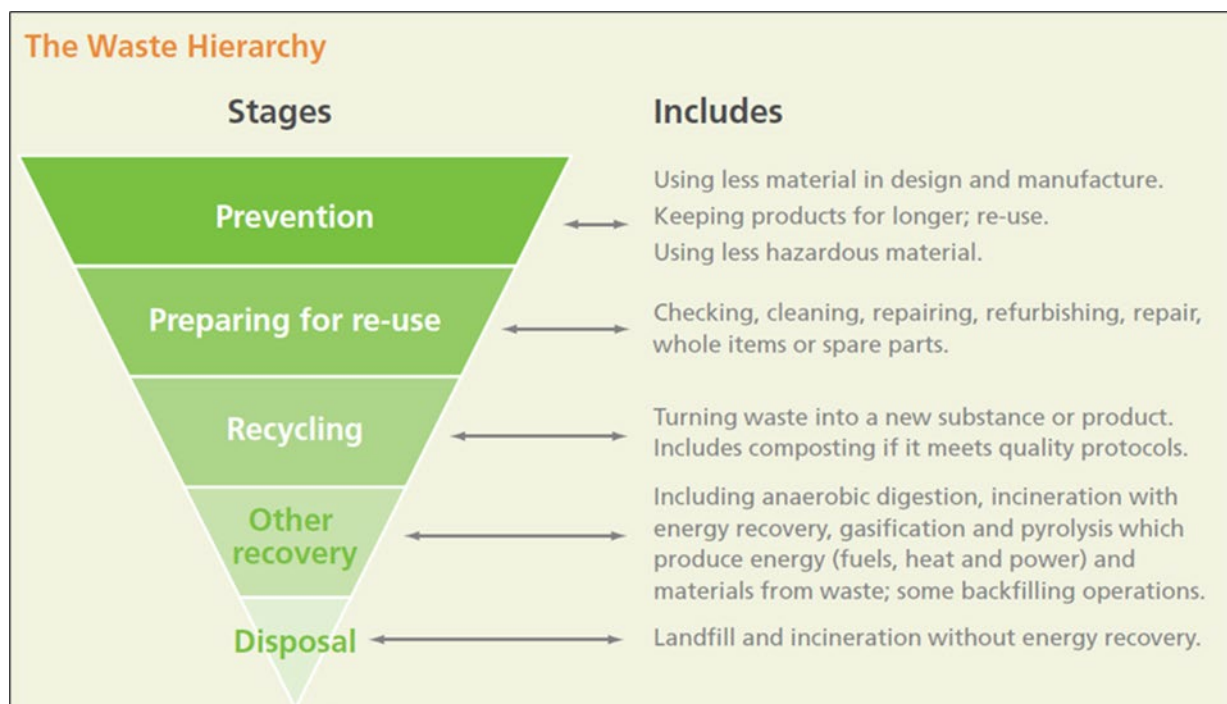

Figure 2.1: Waste Hierarchy
- 2.5 Another change will be the obligatory use of SIC codes in all documentation relating to waste management services and a compulsory commitment from waste producers to adhere to the waste hierarchy as described in **Figure 2.1**.